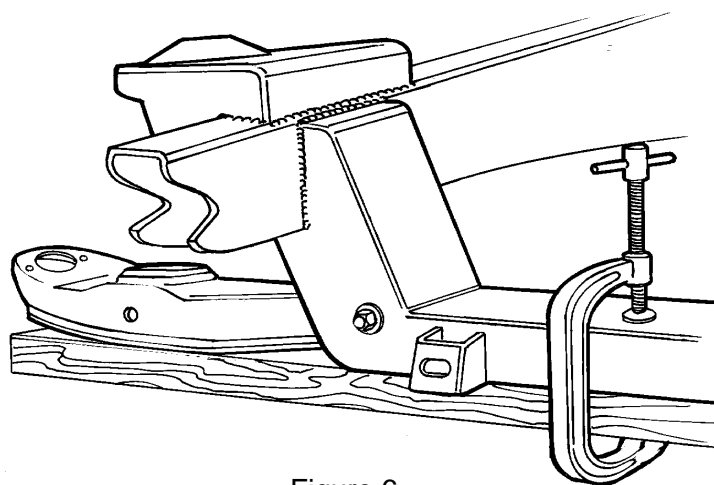

Figure 6
9. If you are using factory lower control arms and strut rods you will continue here. Use the lower control arm and strut rod for locating the rear strut rod supports and gussets. Using a 2 x 4 and a C-clamp, install the control arm as shown in Figure 6.